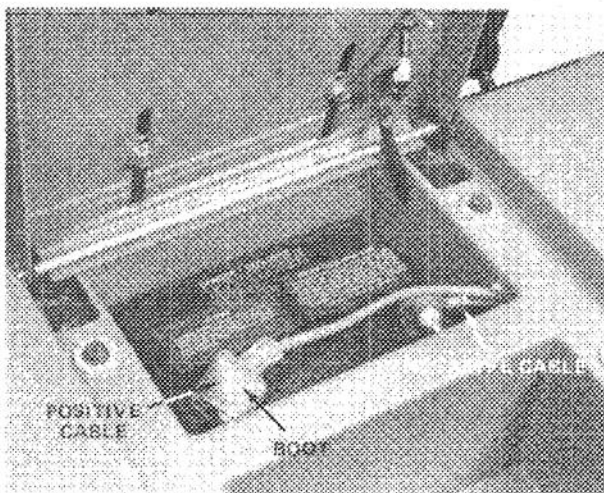

Figure 12
7. Install the positive cable (rubber boot over end) to the positive (+) terminal and the negative cable (black) to the negative (-) terminal of the battery and secure with capscrews and wing nuts. Slide the rubber boot over the positive terminal to prevent possible short-out from occurring (Fig. 12).